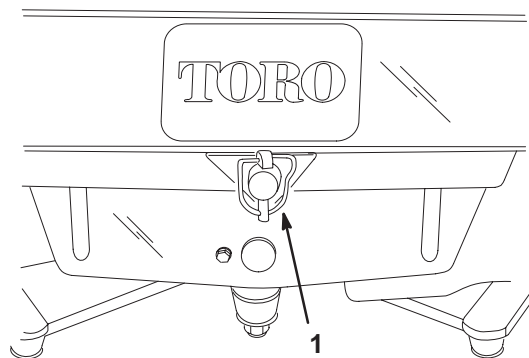

Figure 11
13. Mount bottom of bracket to frame with (2) 1/2-13x1-1/2" lg. capscrews, mounting strap, 1/2 flatwashers and locknuts. Strap to be positioned between frame and bracket.
15. Secure rear of frame to bracket pin with disconnect pin (Fig. 11).